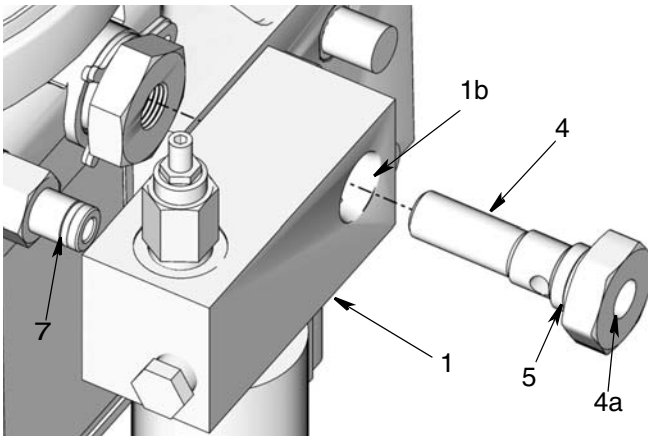

FIG. 5: Right Side Installation Shown
- Be sure o-ring (5) is installed on bolt (4) as shown in FIG. 5.
- Install vent valve mounting bolt (4) through hole (1b) in block (1) and into G3 pump (FIG. 5). Tighten mounting bolt (4) securely then torque to 35 ft. lbs. (47.45 N.m).